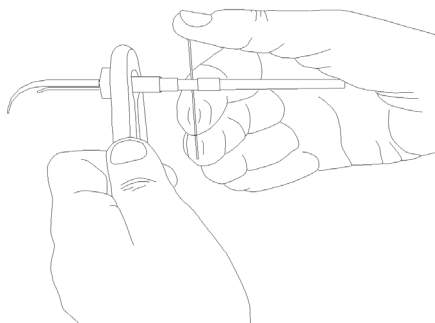

Figure 61 – Tightening / exchange of ferrite rod
If an instrument has lost its efficiency, it may help to re-tighten the ferrite rod – see Figure 61 – and check that the inside of the hand-piece is free of water and foreign bodies.
5. The curing depth is measured using a caliper. Measure the depth at the shallowest point. See Figure 61.